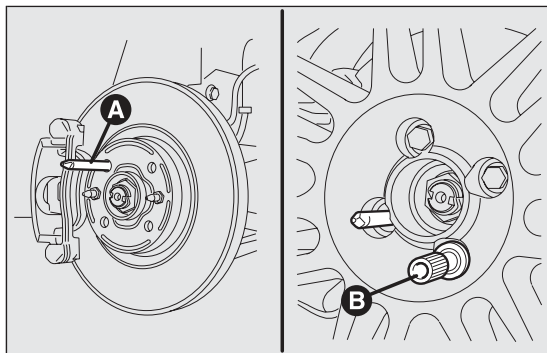

fig. 148
- ☐ tighten centering pin A fig. 148 in one of the fixing bolt openings on the wheel hub;